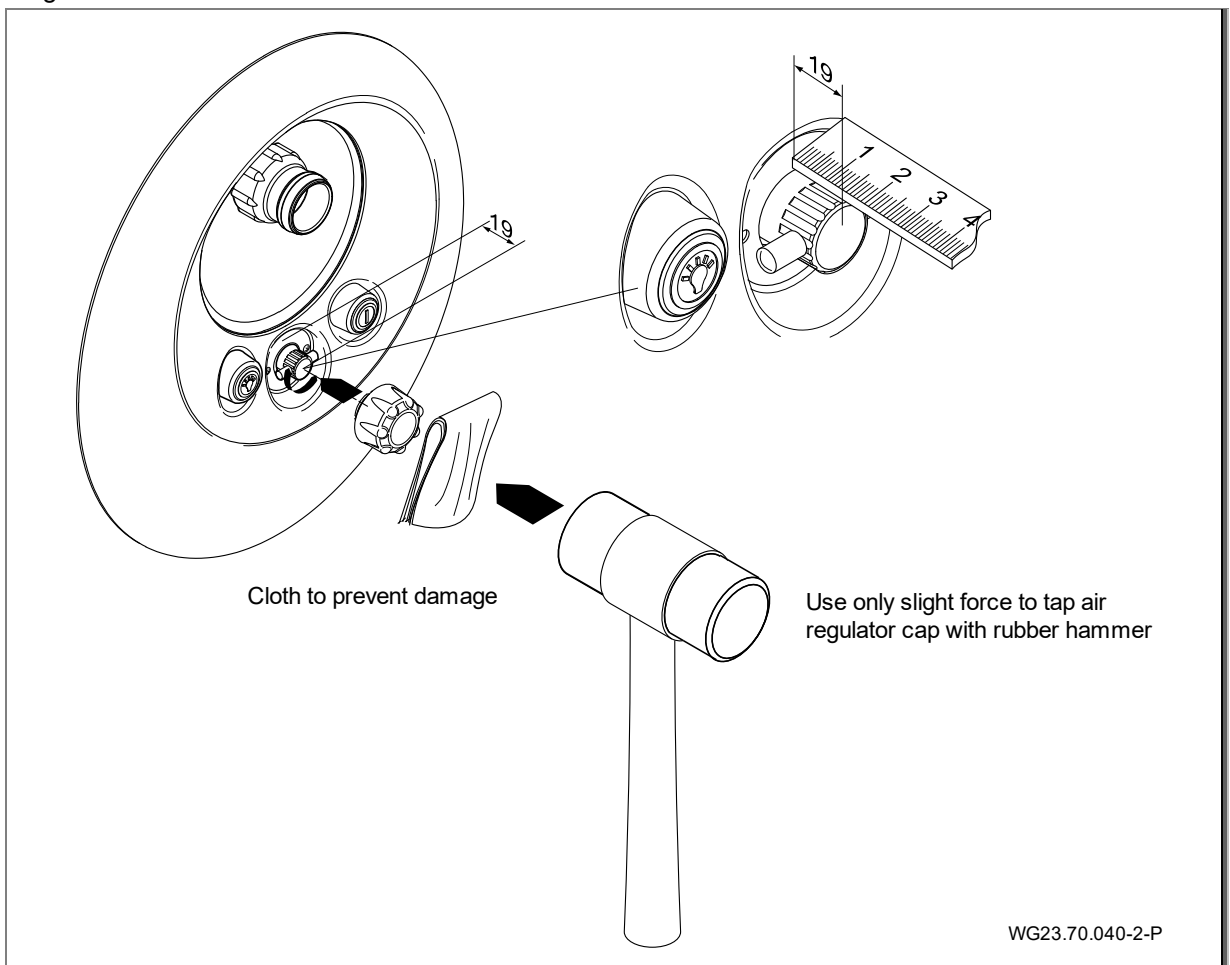

Fig. 22
11. Secure the cover for the air regulator. (Fig. 22)
12. Connect the jet pump (92) to the main housing (1) on the suction and pressure sides using the half screw (98, 99, 100), the rubber bracket (79) and the corresponding clamps (75).